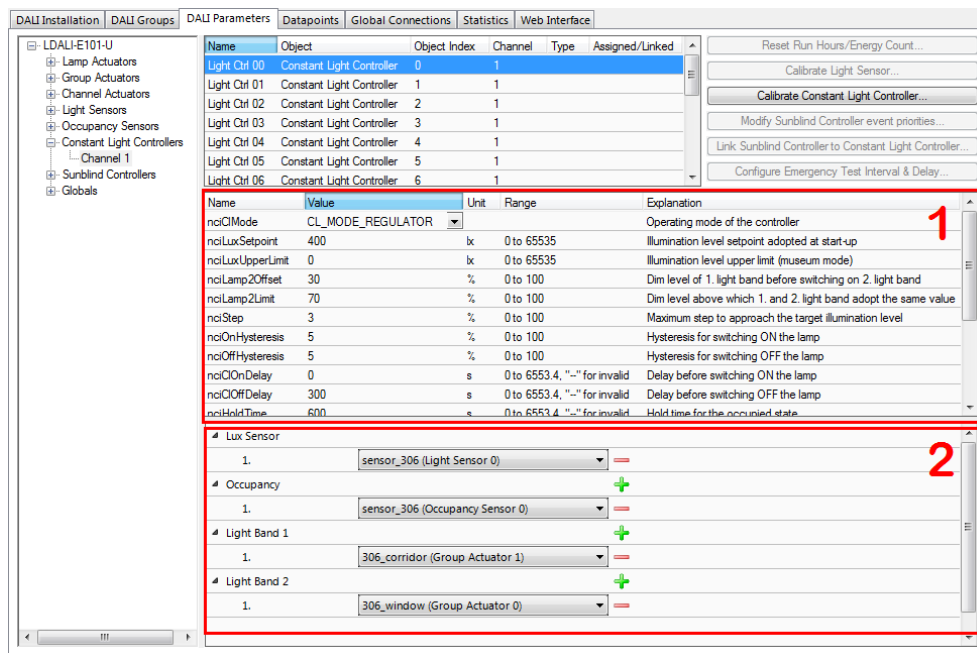

Figure 41: Parameterize Constant Light Controller.
- Select the constant light controller with index 0 as shown in Figure 41. The parameters of the selected constant light controller are displayed in the middle of the window (1).